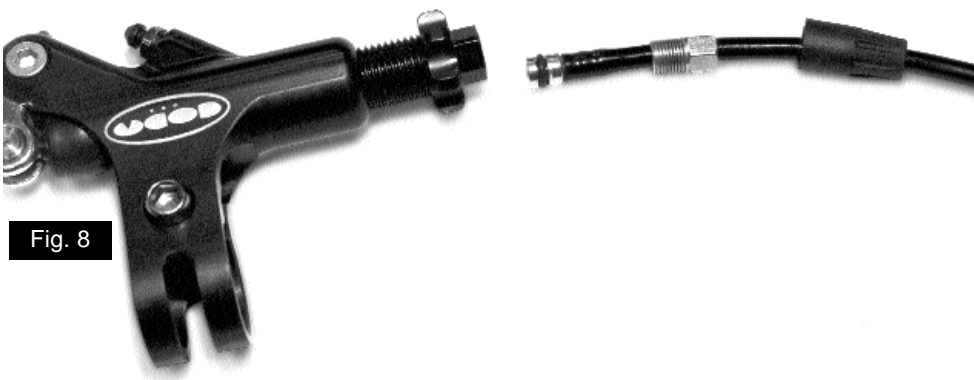

Fig. 8
4. Gently insert the end of the new replacement line with the silver O-ring fitting into the pad clearance adjuster on the brake lever, making sure not to damage the O-ring on the threads in the master cylinder. Replacement O-rings are available as kit # QC110/. Insert the threaded sleeve fitting and tighten to 69-78 In-Lbs (8-9 Nm.) Slip the black plastic cover from the old line over the threaded sleeve (see Fig. 8.)